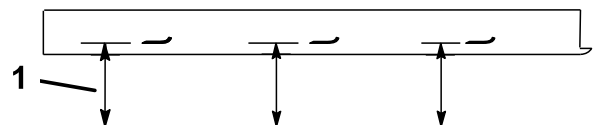

Figure 47
2. Measure from a level surface to the cutting edge, position A, of the blades (Figure 47). Note this dimension.